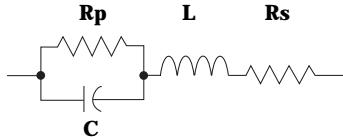

Fig. 2 Capacitor equivalent circuit
*To the scores of people who noticed the accidental swap of figures 2 and 3 in our lab for the Winter edition of the HP Engineering Educator (U.S. version): The figures denoted the difference between "loose control" and "tight control." During the final layout phase, we were obviously invoking our own "loose control" editorial algorithm. Next time we'll throw in a little lead compensation.*
Figure 2 shows the equivalent circuit of a capacitor.  $R_p$ , the parallel leakage resistance is usually many Megohms and can be ignored at RF.